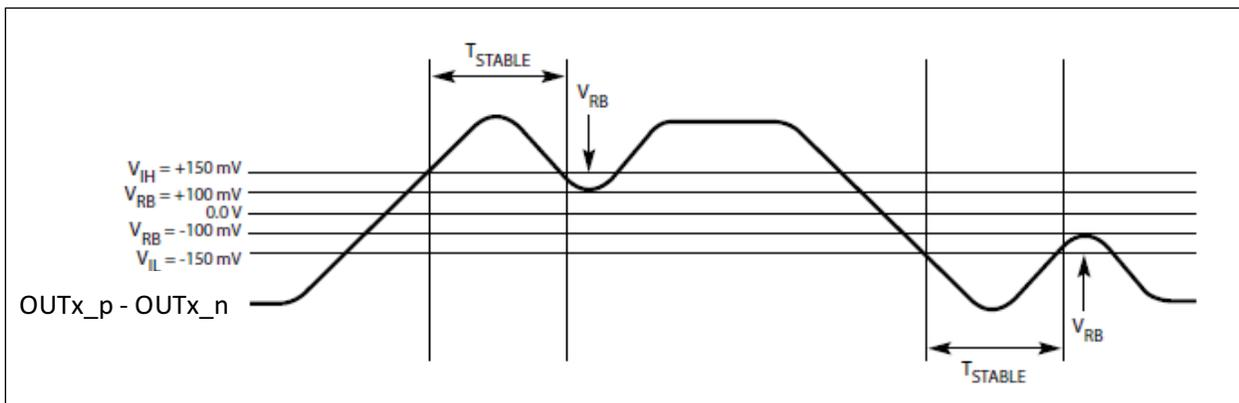

FIGURE 4-5: Differential Measurement Points for Ringback.
- 10:** T_{STABLE} is the time the differential clock must maintain a minimum ± 150 mV differential voltage after 20 rising/falling edges before it is allowed to droop back into the $V_{RB} \pm 100$ mV differential range. See Figure 4-5.